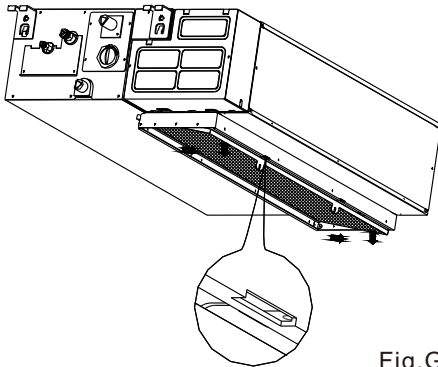

Fig. G2
2. For the unit is a descensional ventilated one, please push the filter up slightly to let the position retainer escape away from the flange fixed holes, and take off the filter according to the arrow direction shows in the Fig.G2.